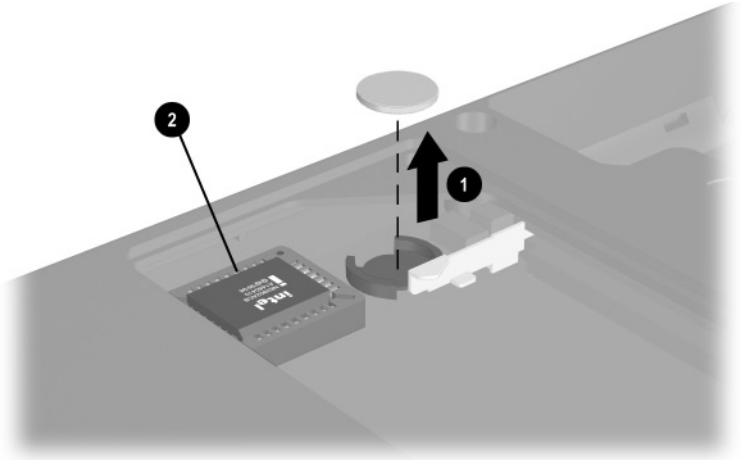

Figure 5-9. Removing the Disk Cell RTC Battery
3. Use a flat blade tool to remove the battery ❶ from the socket on the system board (Figure 5-9).